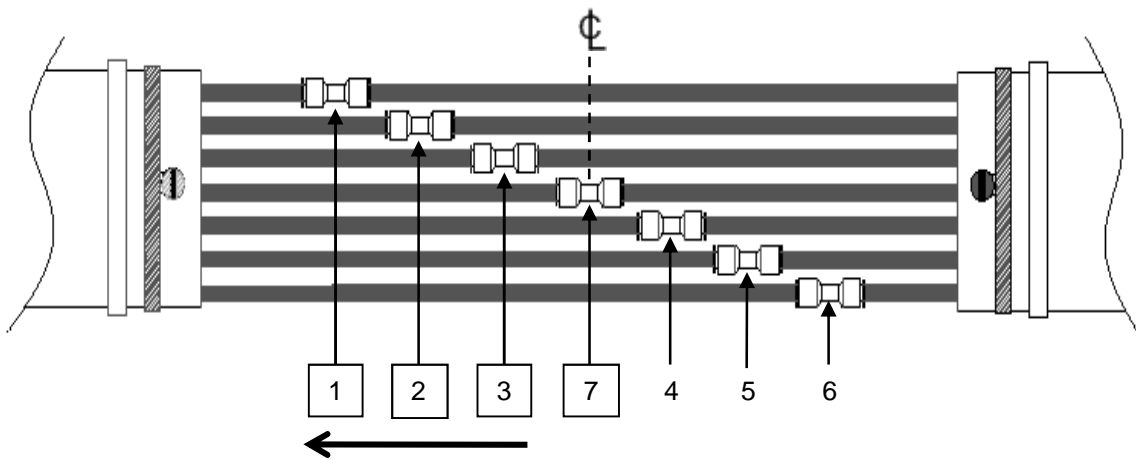
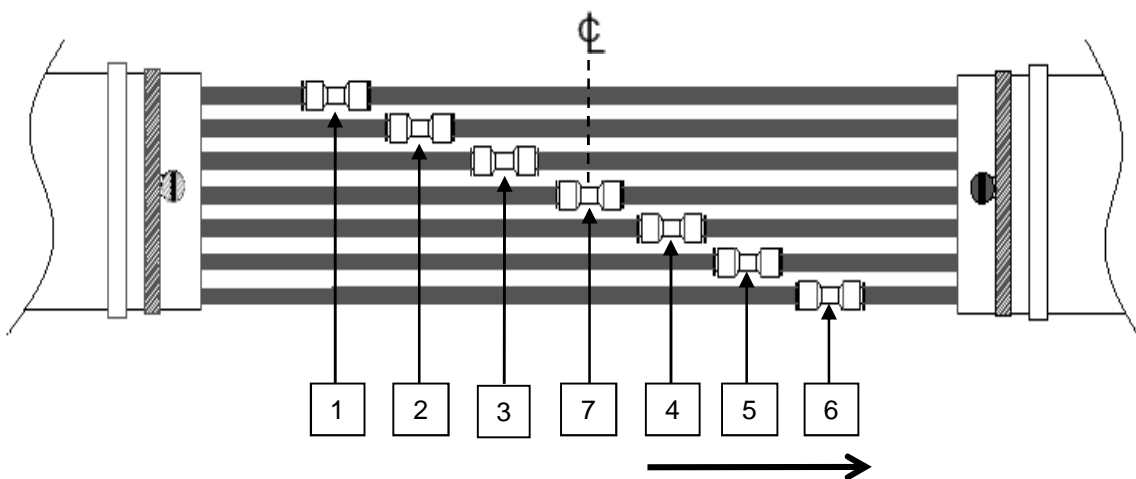

Figure 8
Figure 9
9.8 Locate and lay Tube 3 of first tube cable next to installed Tube 7 Coupling. See Fig. 8.
9.16 Repeat this procedure for Tubes 1 and 2 and Tubes 4 through 6. The “key” is to start in the middle and work toward the ends. **See Fig. 8 and Fig. 9.**